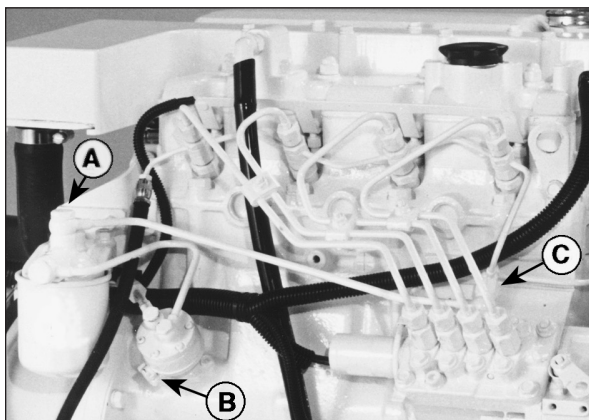

Figure 10: Fuel System.
2. Loosen bleed bolt "A" (Figure 10) on top of the filter. Pump hand primer "B" on fuel lift pump until pure fuel (no bubbles) escapes from bleed bolt "A". Tighten bleed screw "A".